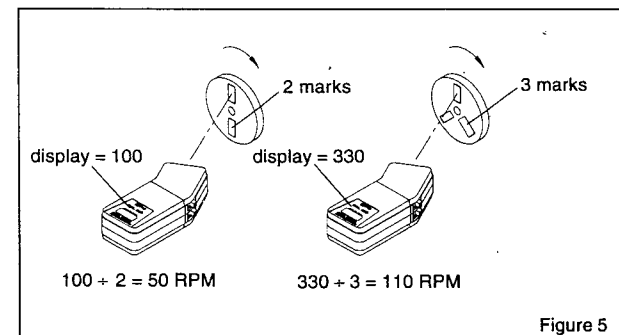

Figure 5
3. divide the displayed value by the number of markers to obtain actual RPM (displayed reading ÷ # of marks = actual RPM), see Figure 5.